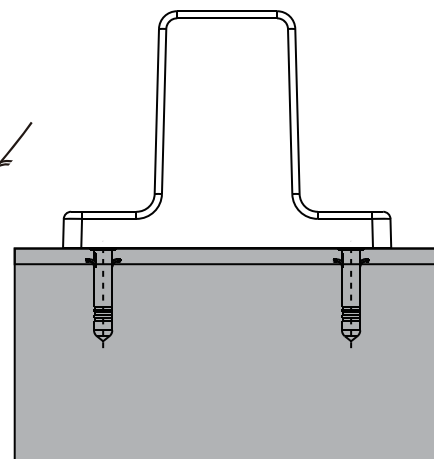

Fig 3
4. Installing the expansion tube into the 2 holes, fix them with screw M4*32 Fig 3.